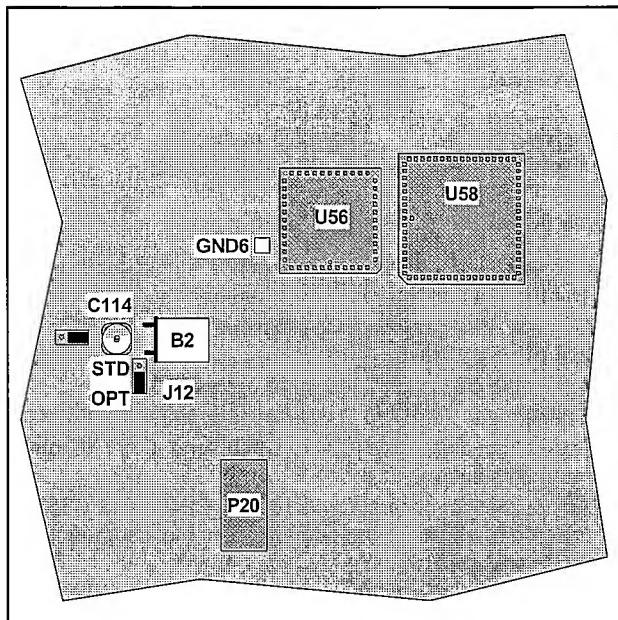

Figure 6-3 Trimmers for the reference oscillator frequency.
- Adjust C114=STD OSC ADJ until the counter reads 10 MHz ± 2 Hz. See Figure 6-3.